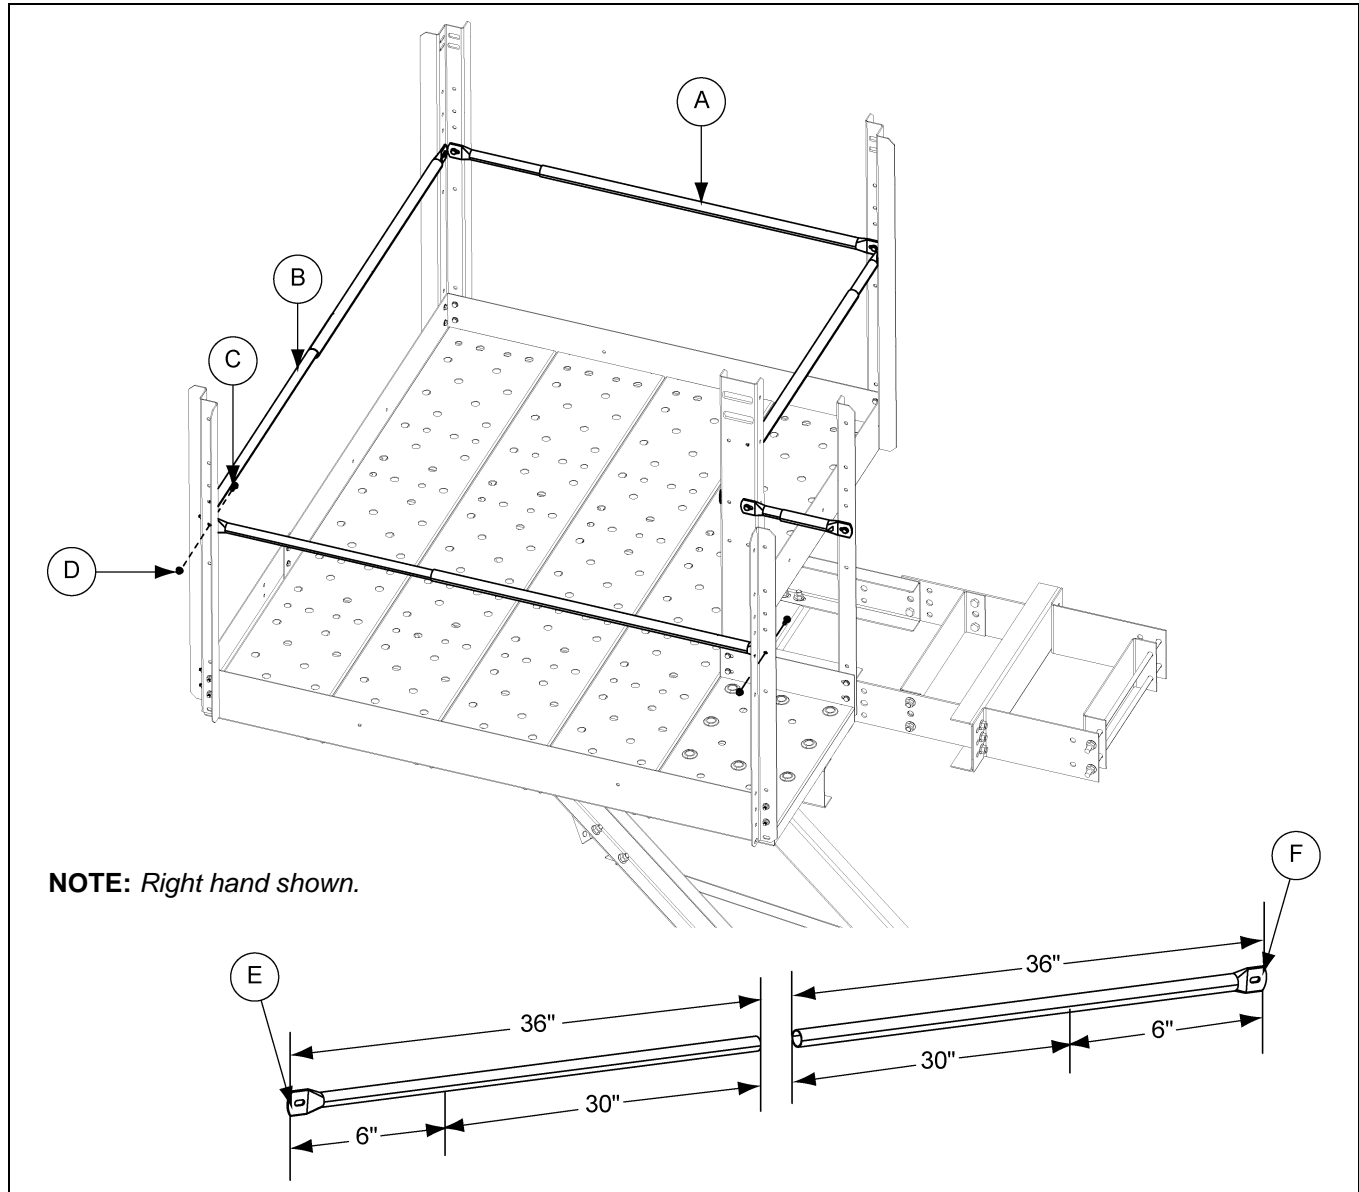

Figure 10M
1. Insert small intermediate handrail into the large intermediate handrails to create telescoping rails. Cut 30" off one small intermediate and one large intermediate rail to fit at entrance. Adjust all rails to the proper length and install to the posts using the 5th hole down from the top. Fasten in place using two (2) 5/16" x 3/4" flange bolts and nuts per each telescoping tube. *(See Figure 10M.)*